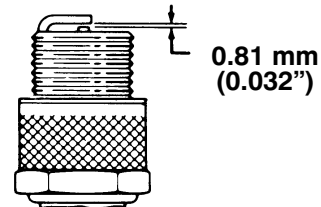

Figure 16
3. Set air gap at 0.020" (0.5 mm) (Fig. 16). Install correctly gapped spark plug and gasket seal. Tighten plug firmly to 14 ft-lb (19 N·m).